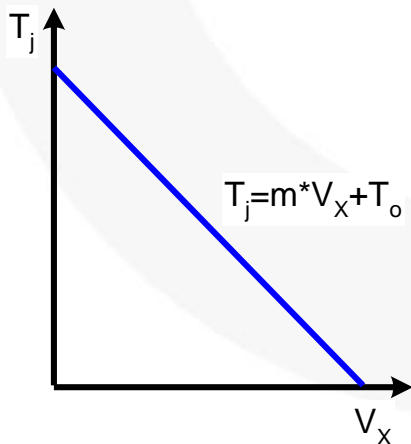

Figure 9. Example of a TSP Plot with Constant Sense Current
should be small enough not to heat the DUT. For instance, 1 – 10 mA can be used, depending on the device type. The measurements are repeated over a specific temperature range with some specified temperature steps. Figure 9 shows a typical result.
For semiconductor junctions; the slope, m , of the straight line in Figure 9 is always negative, i.e., the forward conduction voltage decreases with increasing junction temperature. This process of obtaining Equation (4) is called the calibration procedure for a given device.